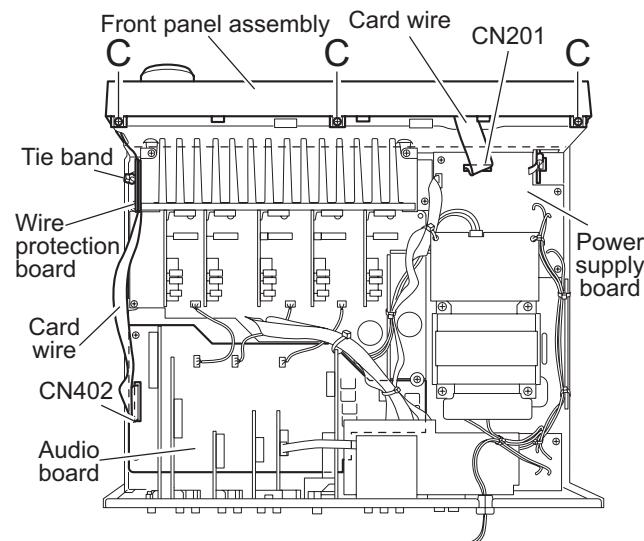

Fig.2
2.2 Removing the front panel assembly (See Figs.2 and 3)
- (1) Disconnect the card wire from the connector CN402 on the audio board. (See Fig.2)
- (2) Disconnect the card wire from the connector CN201 on the power supply board. (See Fig.2)
- (3) Remove the tie band and wire protection board fixing the card wire. (See Fig.2)
- (4) Remove the three screws **C** attaching the front panel assembly. (See Fig.2)